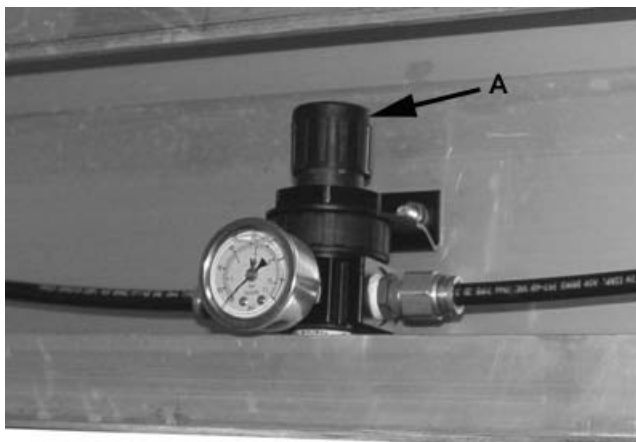

Figure 4-1 – Lift Axle Regulator Valve
Your trailer can be equipped with one or more lift axles and may be equipped with a regulator valve. With trailer loaded, the axle(s) are lowered to help carry and distribute the load forces on the trailer. Turn the valve (A) to set the air pressure to the desired level. See Figure 4-1.